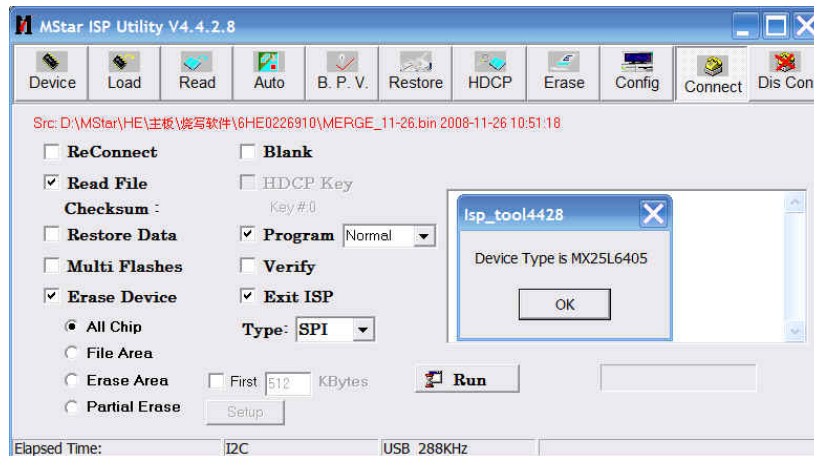

Fig. 16 Successful connection of device MX25L64
- Press menu “**Connect**”, a dialog box “**Device Type is MX25L64** will pop up, that is, connection has been successful, please refer to Fig. 16; if connection is failed, press the first menu “**Device**” to select SPI Flash type “**MX25L64**” manually, then press menu “**Connect**” again;